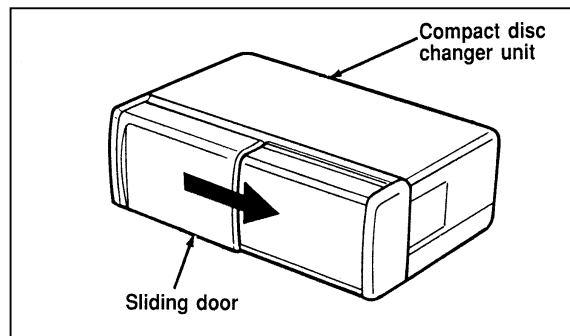

Figure 1
1. Open Compact Disc Changer unit by sliding door to the right (Figure 1).